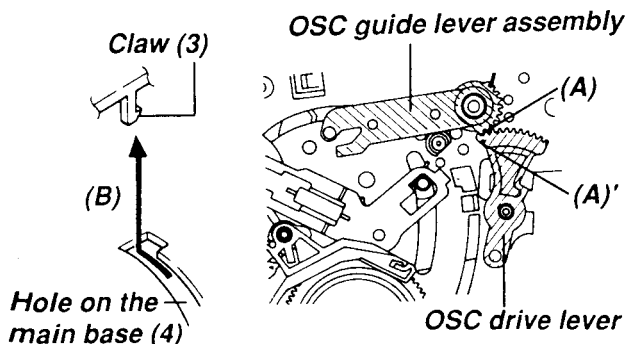

Fig. 4-21-2
4. Remove the OSC guide lever assembly and the torsion spring (2) by detaching the nut (1). (Refer to item "1-4-3. (9) OSC guide lever assembly replacement".)
5. Remove the OSC drive lever assembly in the direction of the arrow (B). (Refer to Fig. 4-21-2.)
7. When the OSC guide lever assembly is replaced, perform the OSC guide lever adjustment. (Refer to item 1-5-4 (3) 5))